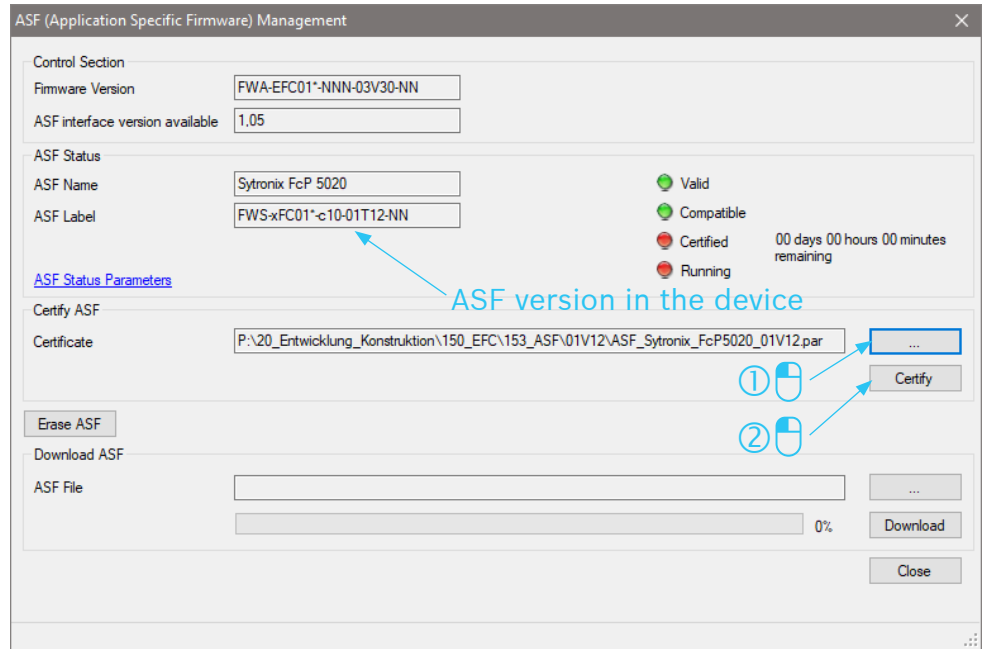

Fig. 17: Licensing ASF window
- ▶ Click on "... " to navigate to an ASF license file (\*.par) and then click on "Certify" to certify the version (see Fig. 17: Licensing ASF window).